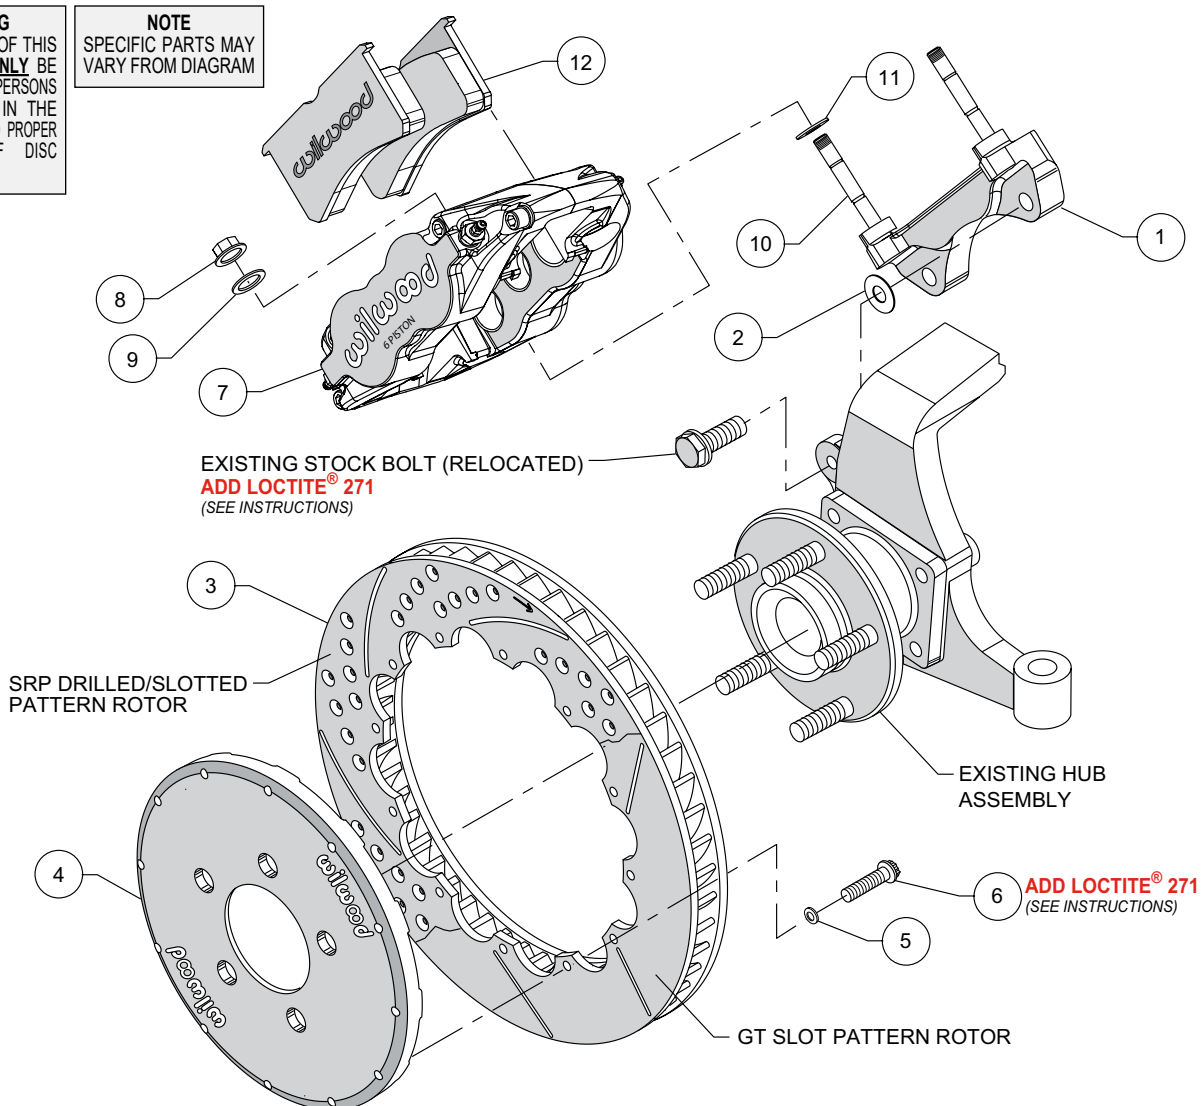
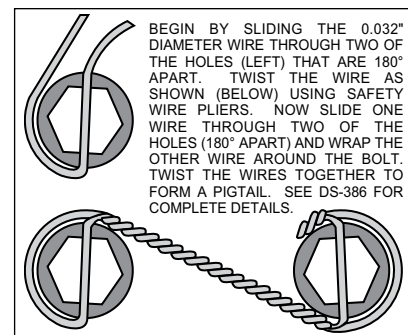

Figure 1. Typical Installation Configuration
Figure 3. Safety Wire Diagram
- The caliper mount bracket assembly (1) should be installed first with clean, dry threads on the mounting bolts. Install the bracket using the original caliper mount bolts. The bolts will now pass through the spindle from the opposite direction that they were removed (see figure 1). The bracket must tighten squarely against the inboard side of the caliper mount bosses on the spindle body. Inspect for interference from casting irregularities, machining ridges, burrs, etc. Use one thin shim (2) between the bracket and spindle during initial trial fitting. Later, after the caliper, pad, and rotor alignment has been checked, and any necessary shims have been put in place, the mount bolts should be coated with red *Loctite*® 271 and torqued to 65 ft-lbs.
- Assemble the rotor (3) to the hat (4) with the bolts (6) and washers (5) provided in the configuration pictured in figure 1. Apply red *Loctite*® 271 to the bolt threads and torque to 155 in-lb using a criss-cross pattern. For an added measure of security, the bolts may be safety wired using standard 0.032 inch diameter stainless steel safety wire as shown in Figure 3. Please refer to Wilwood's data sheet DS-386 (available at [www.wilwood.com/Pdf/DataSheets/ds386.pdf](http://www.wilwood.com/Pdf/DataSheets/ds386.pdf)) for complete safety wire installation instructions.
- NOTE:** This kit contains distinct right and left hand calipers that must be mounted in a specific direction, as described below. Initially place one .035" thick shim (11) and each stud (10) as shown in Figure 1. Mount the caliper (7) onto the bracket (1) using lock nuts (8) and washers (9), Figure 1. Ensure that the caliper is mounted so that the largest pistons are at the rotor exit end of the caliper, in relation to the direction of rotor rotation. Temporarily tighten the lock nuts and view the rotor through the top opening of the caliper. The rotor should be centered in the caliper. If not, adjust by adding or subtracting shims (2) between the bracket and the upright. Always use the same amount of shims on each of the two mounting bolts. Once the caliper alignment is correct, remove the bracket mounting bolts one at a time, apply red *Loctite*® 271 to the threads, and torque to manufacturer's specifications.
- Remove the caliper center bridge pad retainer bolt, nut, and tube from the caliper. Slide the brake pads (12) into place. They should install easily without interference. Check that the outside radius of the brake pad is aligned with the outside diameter radius of the rotor face. Add or subtract shims (11) between the caliper and mount bracket to gain the proper alignment. Reinstall the center bridge pad retainer tube, bolt, and lock nut. The locknut should be snug without play in the bolt or tube. Be cautious not to over tighten.
- Once all clearances have been checked, remove the wheel, caliper, hat, and rotor from the spindle and hub. Secure the caliper mounting bracket (1) to the spindle using red *Loctite*® 271. Torque the bolts to 65 ft-lbs. Reinstall the hat and rotor assembly and again use several lug nuts to hold it in place. Reinstall the caliper and torque the caliper nuts (8) to 30 ft-lbs.
- Install braided flexline kit part number 220-6746 (not included). The 10mm x 1 to -3 (P/N 220-6890) male fitting installs to the stock bulkhead. Then install the straight 1/8-27 to -3 NPT (P/N 220-6956) fitting into the caliper (7) (use PTFE tape on pipe threads of adapter fitting for proper sealing to caliper). Finally, install the flex line (P/N 220-6411) to the two previously installed fitting. **Carefully route lines to prevent contact with moving suspension, brake or wheel components.** Wilwood hose kits are designed for use in many different vehicle applications and it is the installer's responsibility to properly route and ensure adequate clearance and retention for brake hose components.